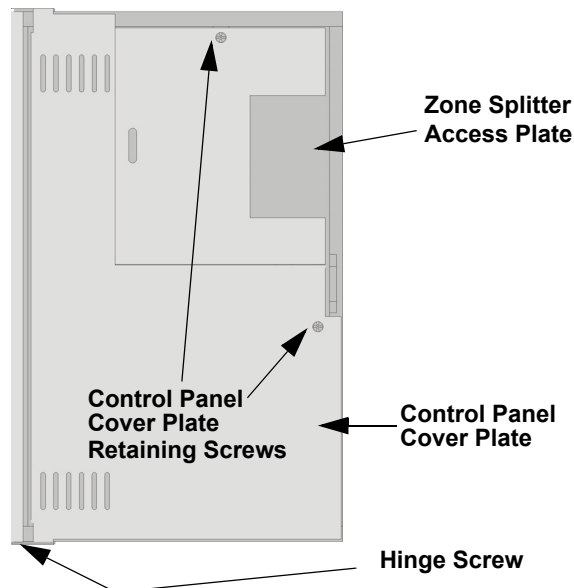

Figure 8-1 View of Cabinet With Cover Plate in Place
2. Remove the two cover plate retaining screws, then open the control panel cover plate. See Figure 8-1.